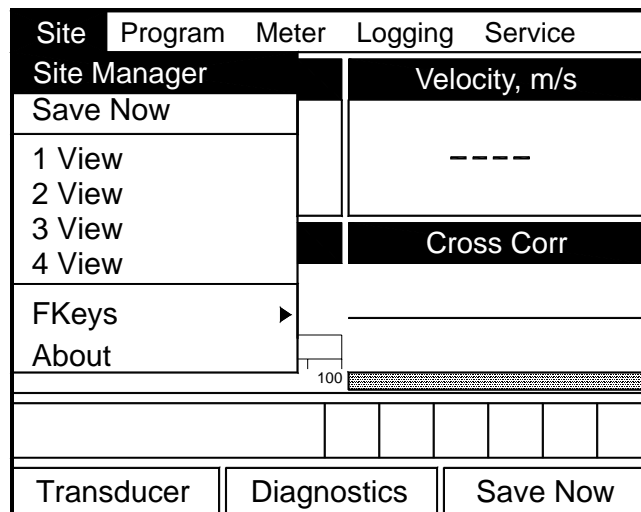

Figure 4-6: Site Menu
To enter the Site Menu, press the [MENU] key at the lower right of the CTF878 keypad. The Menu Bar replaces the Status Bar at the top of the screen. Scroll to Site using the [◀] and [▶] keys. Press [ENTER] or the [▼] arrow key. The screen now appears similar to Figure 4-6 below. While following the programming instructions, refer to Figure 4-12 on page 4-12.
As mentioned earlier, the CTF878 can display one to four different measurement parameters simultaneously. However, sometimes you might wish to display only one or two parameters. To change the number of open display windows from within the Site Menu (see Figure 4-6 on page 4-6), use the [▼] or [▲] arrow keys to move to the desired number of views (1 View, 2 Views, etc.) Press [ENTER].
- From the Site Menu (shown in Figure 4-6 on page 4-6), use the [▼] or [▲] arrow keys to move to the FKeys entry on the menu. Press [ENTER]. The screen now appears similar to Figure 4-8 below.
1. From the Site Menu (shown in Figure 4-6 on page 4-6), use the [▼] or [▲] arrow keys to move to the FKeys entry on the menu. Press [ENTER]. The screen now appears similar to Figure 4-8 on page 4-8.